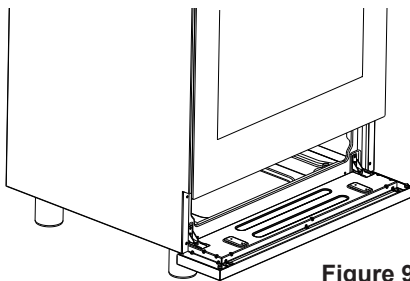
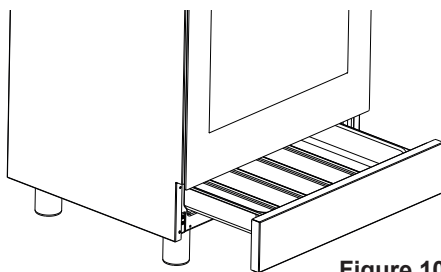

Figure 9
Figure 10
- Depending on model, open the pivoting panel (fig. 9, model DMX64INL) or remove the drawer (fig. 10, models PRO66MXLIN, PRO66MALIN).